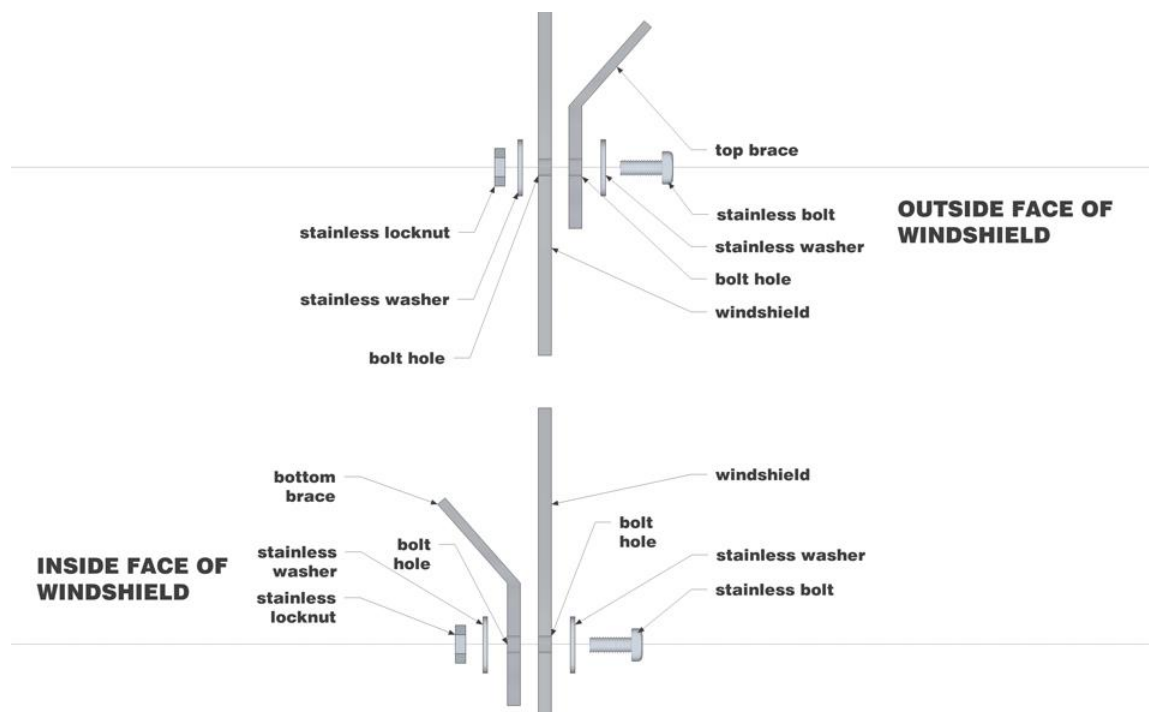
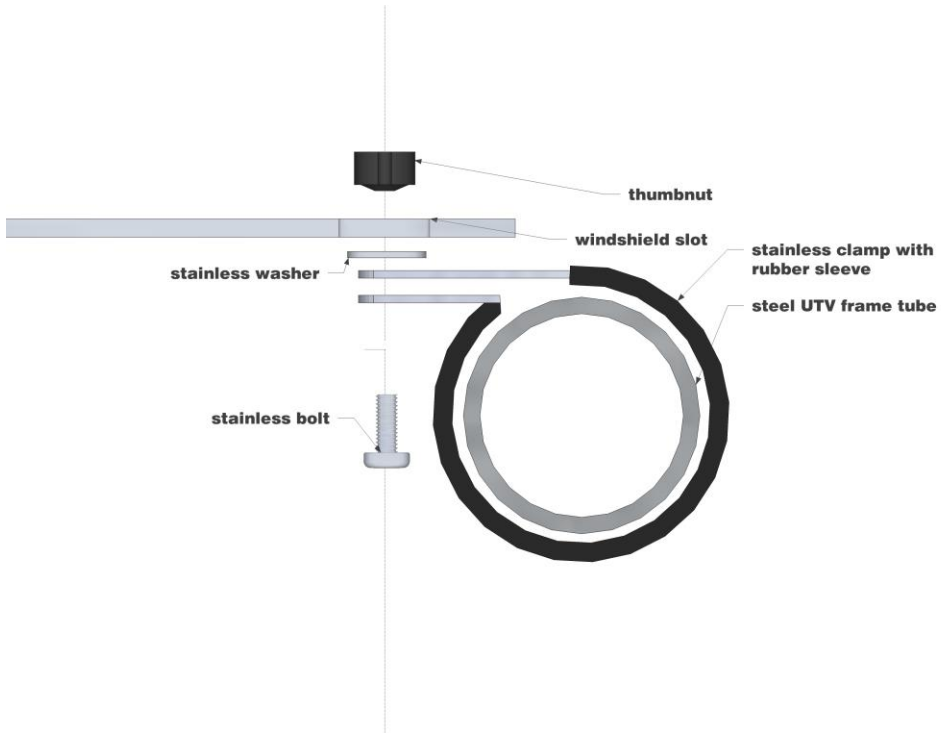

Fig.1
Fig.2
3. Now take the rubber gasket provided and install it along the bottom of the windshield. Take care to seat the gasket **fully** to the bottom edge contour. Install the top and bottom braces using (1) 1" stainless bolt, (1) stainless locknut, and (2) stainless washers per hole. On most models, the bottom brace is widest (installed **inside** the windshield), with the narrower brace used at the top (installed **outside** the windshield). Other models use the same brace top and bottom. The bolts should be installed through the front of the windshield with the bolt head facing forward, the locknuts on the back of the windshield facing rearward, with one washer under the bolt head and one washer behind the locknut at the rear. Install both braces using this sequence; even though the bottom brace is installed inside the windshield the bolt heads should still face forward, and hardware orientation remains the same as stated above (see fig.1). **Note: if you are installing with a Over Armour Offroad cab enclosure, wait until you have fully installed the enclosure and fitted the windshield to bolt the upper brace to the windshield. The upper brace is bolted to the windshield on the outside through the front visor of the cab enclosure as shown in fig. 1 and should be the final step in the installation.** Now you are ready to place the windshield on your vehicle. With help, place the windshield onto the hood. The rubber gasket should temporarily hold it up, but be careful. The bent angle at the top of the windshield should go underneath the top bar of the roll cage. Near the top slot in the top windshield, take a 1-3/4" clamp and wrap it around the roll cage tube and then run a bolt with a washer through both ears of the clamp from the inside out (see fig. 2). Then run a thumbnut onto the bolt from the front. Repeat at all other slot locations.